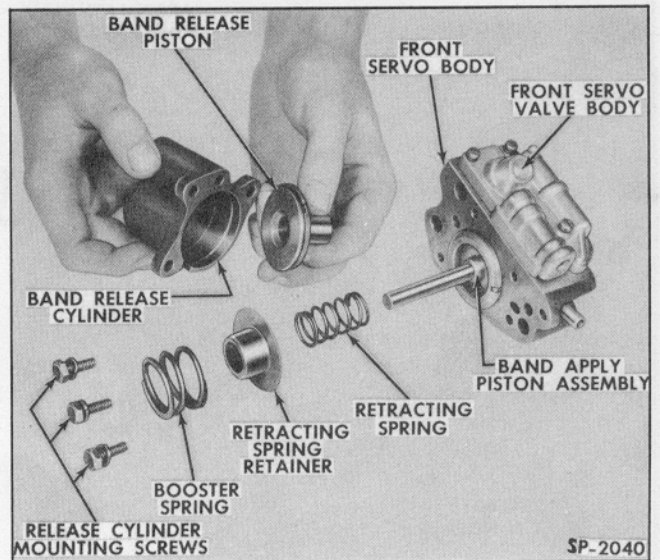

Fig. 23-Removing Release Piston
4. Remove the release piston from the release cylinder (Fig. 23).
5. Remove front servo band apply piston assembly from front servo body (Fig. 23).
6. Remove the three screws attaching the front servo valve body to the front servo body and remove the front servo valve body (Fig. 23).